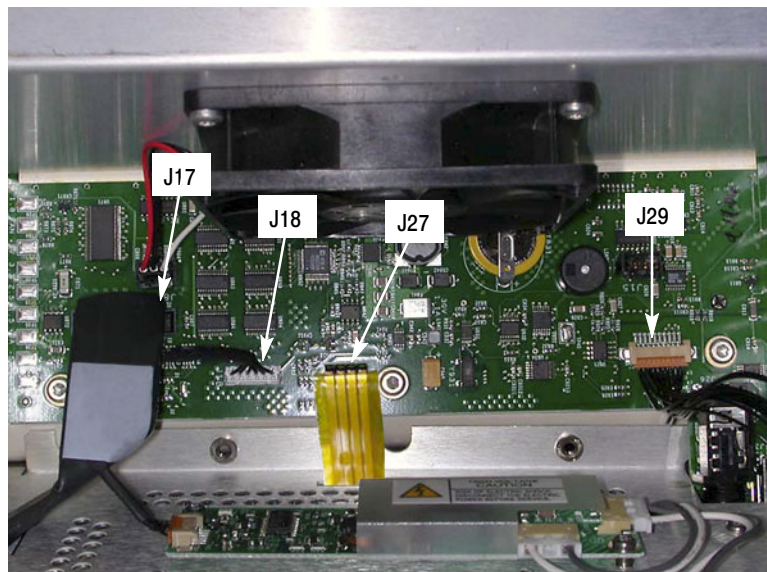

Figure 4-6: Front panel cable connections
17. Place the front panel/LCD assembly near the front of the instrument, and connect the cables from the front panel to J17, J18, and J29 on the Main board. Make sure to dress the LCD cable to J17 as shown in Figure 4-6, well away from the chassis side and capturing the cable from the Inverter board to J18.
- 19.** Connect the remaining touch-panel cable (orange) to J27 (see Figure 4-6).